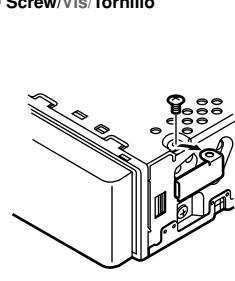

Figure 6 / Figure 6 / Figura 6
2. Remove the stopper from the source unit (Figure 6).